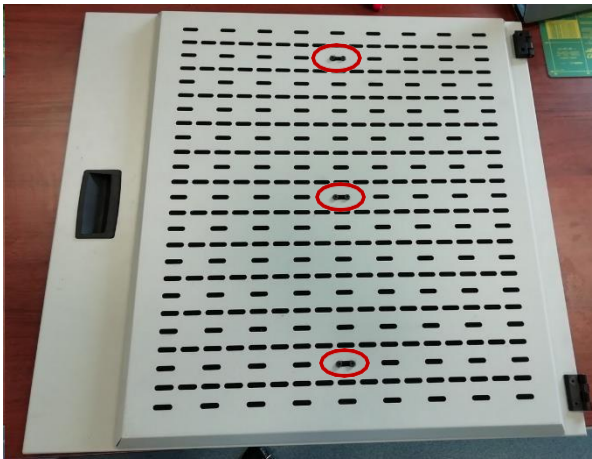

Fig. 11 Unscrewing 6 DIN7984-M4x6 screws from the top cover of the printer
4. Unscrew the 6 DIN7984-M4x6 screws from the top cover of the printer (Fig. 11). Put aside the DIN125-M4 screws and washers.